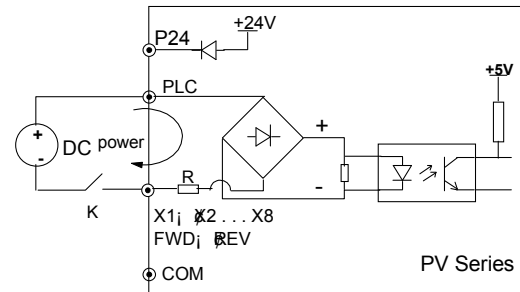

Fig. 3-22 Wire connections when an external power supply is used
② If an external power supply is used, then use the Wire connections shown in Fig. 3-22. (be sure to disconnect the cable between P24 and PLC)